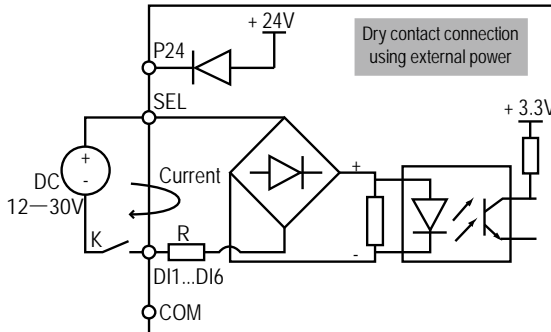

Figure 4-14 Dry contact connection when using external power
2. If the external power supply is used, the connection is as shown in Figure 4-14. (Note that the SEL and the P24 are not short-circuited)